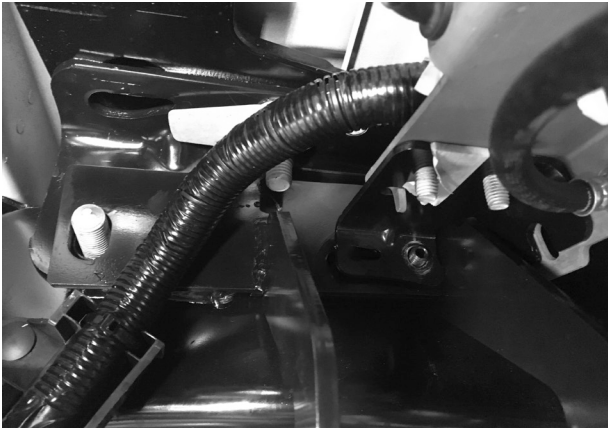

Fig. 29
- Align upper frame brace (G) on the frame and thread the included M10 flange nut (DD) onto the set screw. Put the factory fifth wheel bolt or the included 5/8" hardware (AA) through the frame and the bracket. Thread the matching nut on the bolt (Figs. 29 & 30). Do not fully tighten.